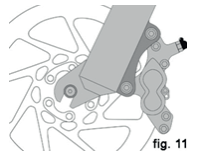
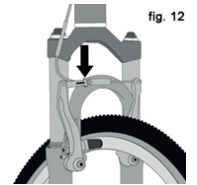

fig. 11
fig. 12
1. If your bike has rim brakes, disengage the brake's quick-release mechanism to increase the clearance between the tire and the brake pads (See Section 4.C fig. 11 through 15).
2. If your bike has rim brakes, disengage the brake's quick-release mechanism to increase the clearance between the wheel rim and the brake pads (see Section 4.C, figs. 11 through 15).
3. Some bicycle brakes, such as disc brakes (fig. 11) and linear-pull brakes (fig. 12), are extremely powerful. Take extra care in becoming familiar with these brakes and exercise particular care when using them.
It's very important to your safety that you learn and remember which brake lever controls which brake on your bike. Traditionally, in the U.S. the right brake lever controls the rear brake and the left brake lever controls the front brake; but, to check how your bike's brakes are set up, squeeze one brake lever and look to see which brake, front or rear, engages. Now do the same with the other brake lever. Make sure that your hands can reach and squeeze the brake levers comfortably. If your hands are too small to operate the levers comfortably, consult PROPAIN or your dealer before riding the bike. The lever reach may be adjustable; or you may need a different brake lever design. Most rim brakes have some form of quick-release mechanism to allow the brake pads to clear the tire when a wheel is removed or reinstalled. When the brake quick release is in the open position, the brakes are inoperative. Ask PROPAIN or your dealer to make sure that you understand the way the brake quick release works on your bike (see figs. 12, 13, 14 & 15) and check each time to make sure both brakes work correctly before you get on the bike.